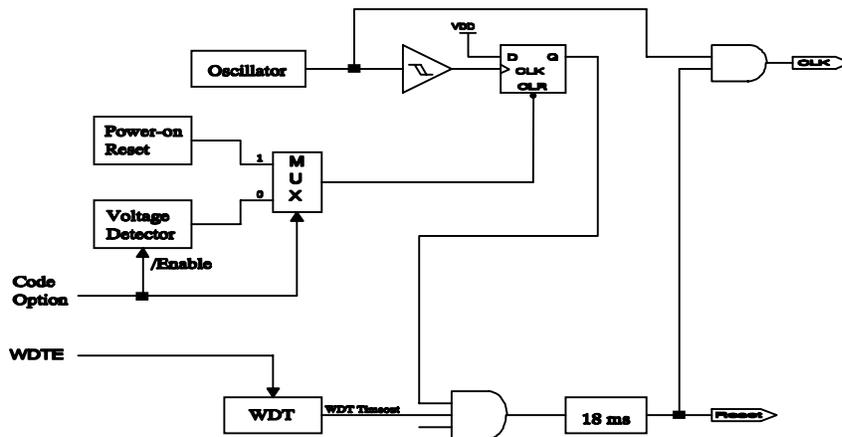

Fig. 12 Block diagram of Reset of controller
- (1) Power on reset, or Voltage detector
- (2) WDT timeout. (if enabled and in GREEN or NORMAL mode)
Note that only Power on reset, or only Voltage detector in Case(1) is enabled in the system by CODE Option bit. If Voltage detector is disabled, Power on reset is selected in Case (1). Refer to Fig. 12.